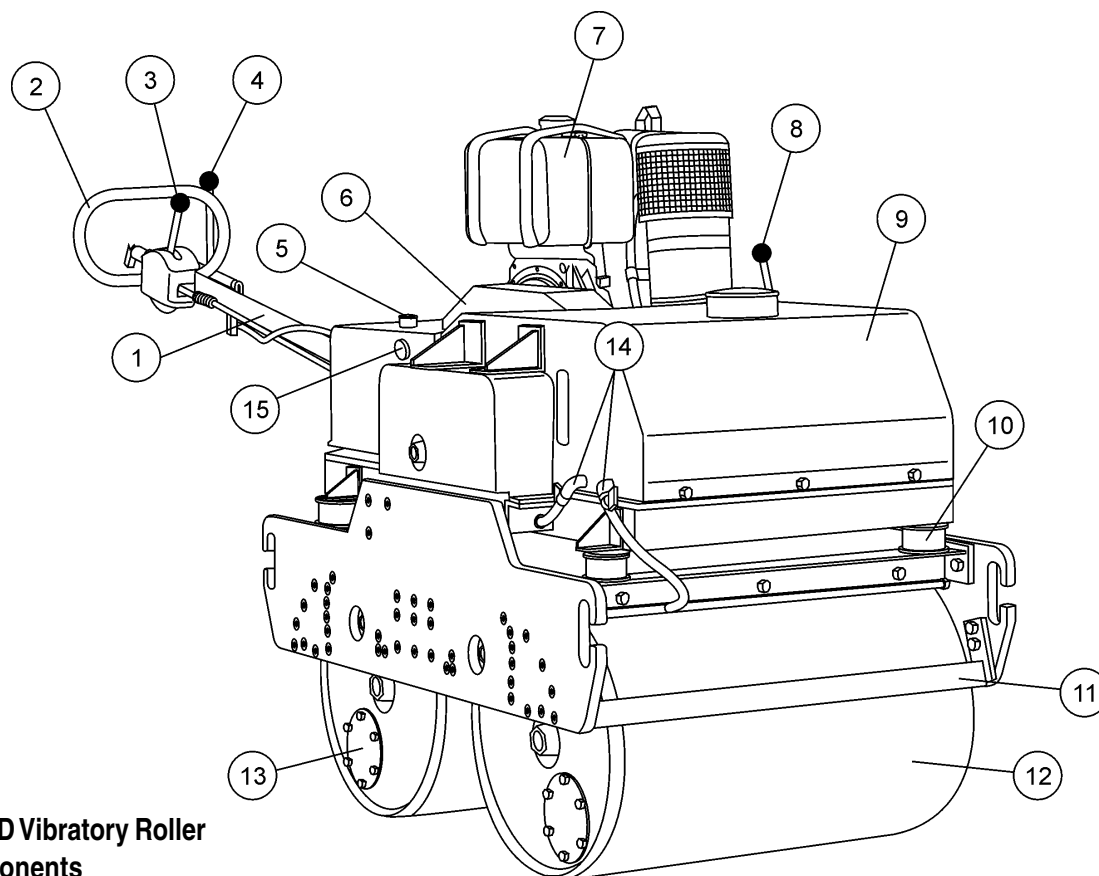

Figure 6. MDR-9D Vibratory Roller Components
Before starting the MDR-9D Vibratory Roller, identify and understand the function of the controls and components as indicated in Figure 6.
Figure 6 illustrates the location of the major components for the MDR-9D Vibratory Roller. The function of each component is described below:
1. Check travel and vibrator levers to make sure they are functioning properly (Figure 6).